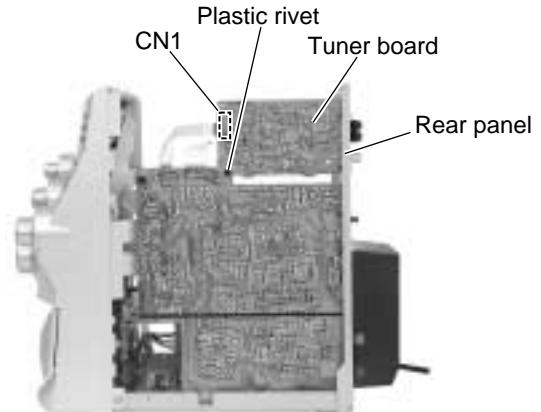

Fig.11
■Removing the tuner board (See Fig.11 and 12)
(Refer to Fig.11)